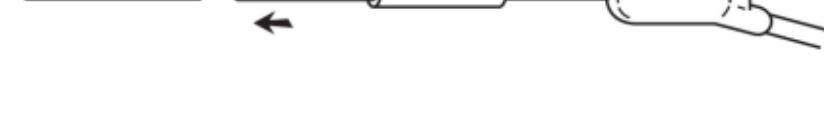

Fig. 4
4. Insert the small metal cannula(s) into the small lumen(s) of the catheter end. (Fig. 4)